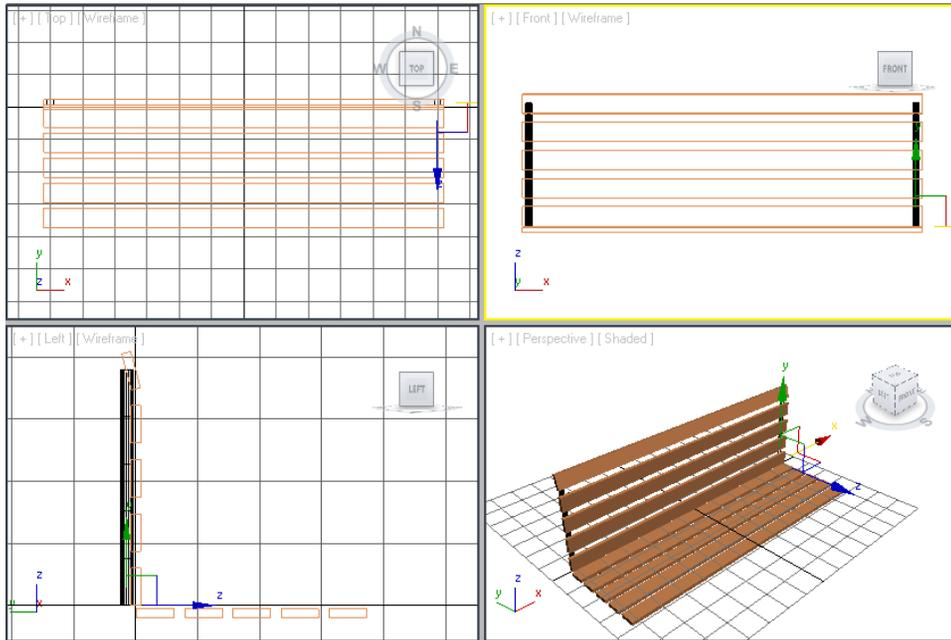

Figure 2-66 The vertical back support002 in viewports
6. Activate the Front viewport by middle-clicking in it. Choose the **Select and Move** tool and move the cursor over the horizontal axis. Press and hold the SHIFT key and the left mouse button, and then drag *vertical back support001* to the right side to align it with the right side of *horizontal back support*, as shown in Figure 2-66. Release the left mouse button and the SHIFT key; the **Clone Options** dialog box is displayed.
7. In the **Clone Options** dialog box, make sure the **Copy** radio button is selected. Set the value **1** in the **Number of Copies** spinner and choose the **OK** button; *vertical back support002* is created with the same dimensions as *vertical back support001*, refer to Figure 2-66.